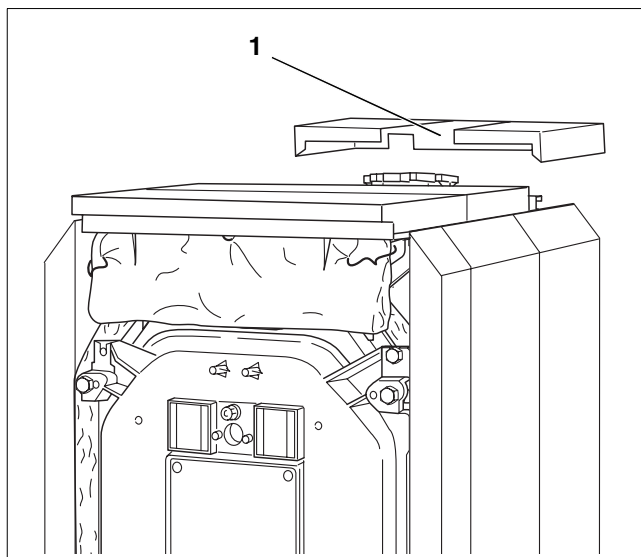

Fig. 53 Assembly – Fitting rear cover
- Place the rear cover on the side panels, with the folded lips and the cut-out for the heating circuit flow (Fig. 53, **ref. 1**) at the front.